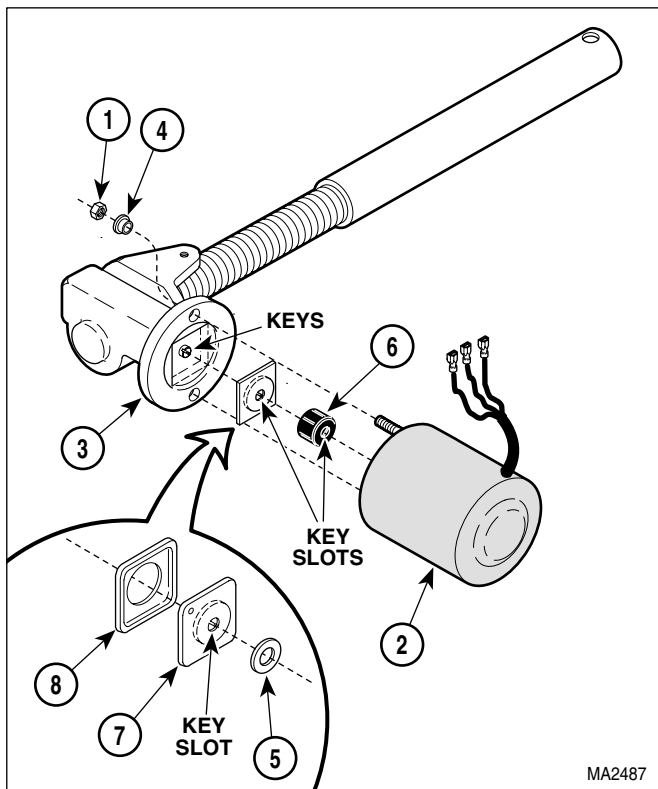

Figure 4-11. Actuator Motor / Actuator Brake Removal / Installation
- (2) Remove two nuts (1, Figure 4-11) and actuator motor (2) from actuator mechanism (3).
- (3) Remove two shoulder washers (4) from actuator mechanism (3).
- (4) Remove spacer (5) and motor coupler (6) from shaft of actuator motor (2).